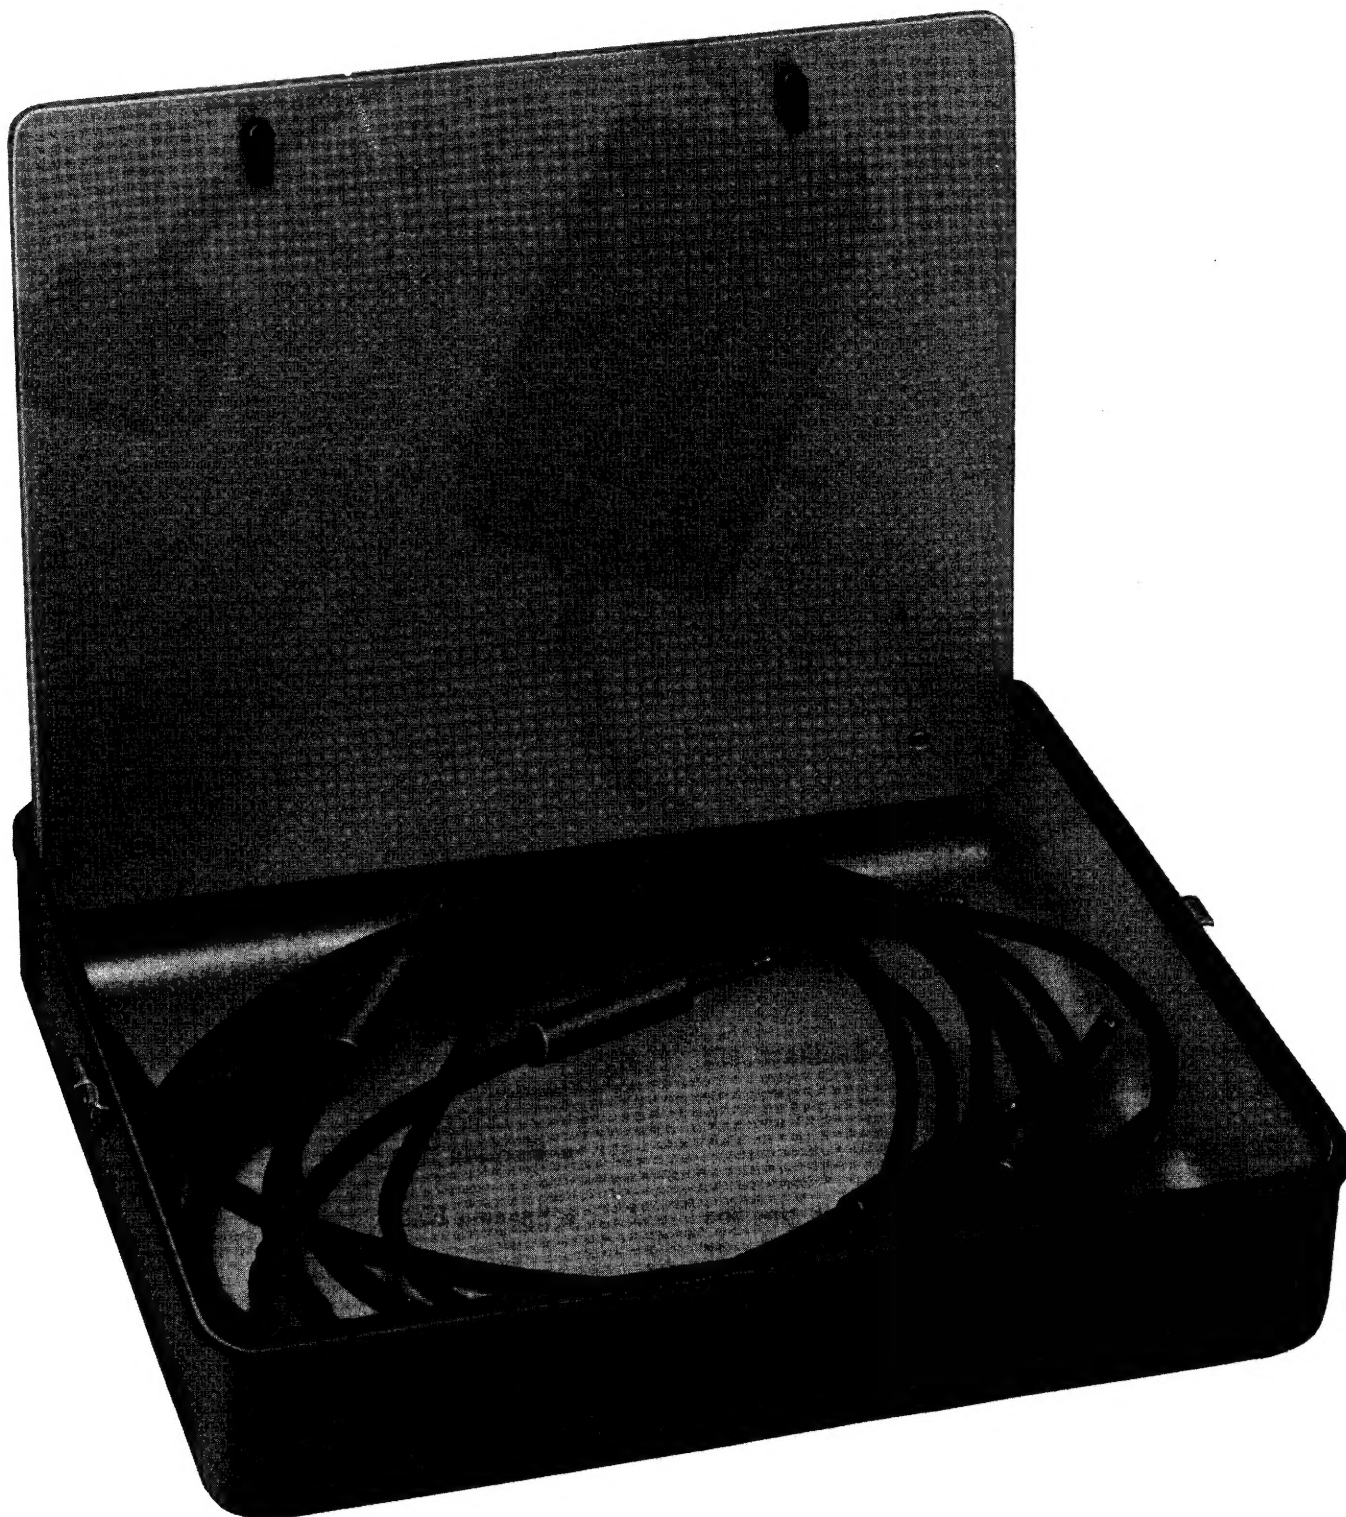

Fig. 3—Storage Compartment Inside 911NA DTS Cover
2.02 The cover (Fig. 3), in addition to providing protection for the front panel of the test set, provides a storage compartment which is used to store the test leads supplied with the test set and can also accommodate a 911P EIA test adapter.